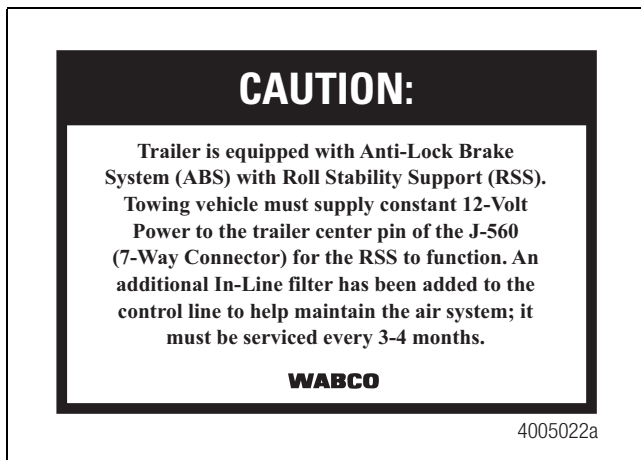

Figure 6.20
2. Affix the constant power label (part number 899 201 833 4) to the front of the trailer, near the seven-way connector. Figure 6.20.